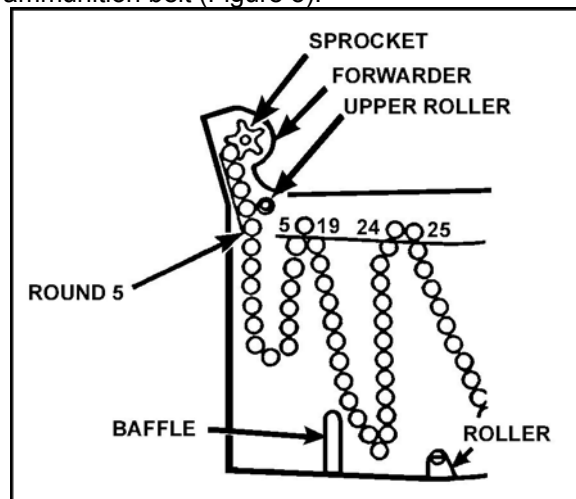

Figure 5. Rounds in forwarder.
8. Gunner: Forwards the ammunition belt (Figure 5).